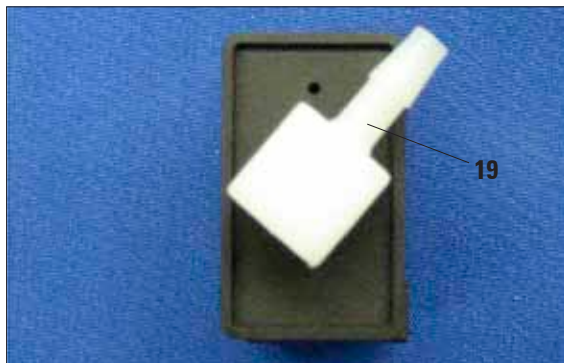

Fig. 28
If two rinsing stations are to be located immediately beside one another, the connector (19) for the left station must be aligned as shown in Fig. 28.